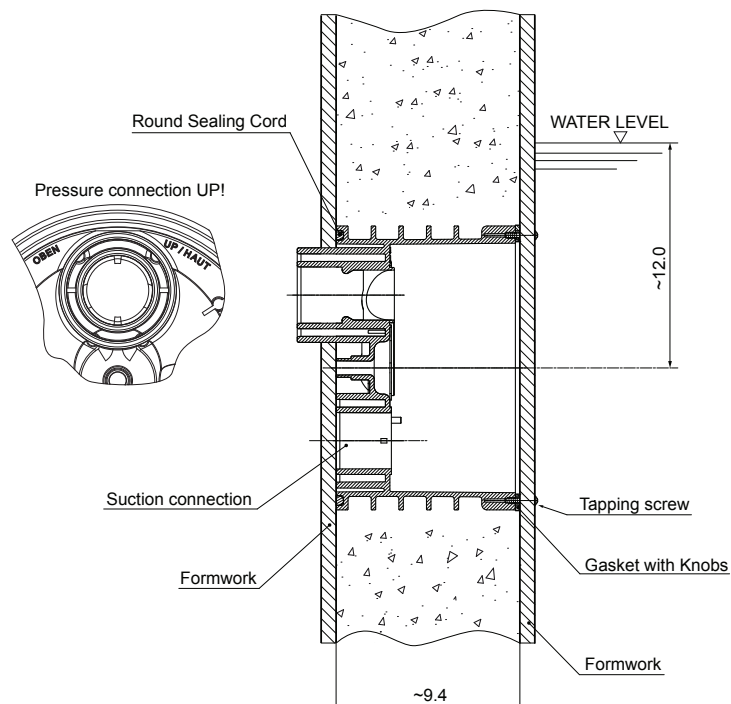

Figure 5
4. Place the jet housing between the steel rebar and against the hole in the outer wall formwork. Jet housing location is very important. (See Figure 5)